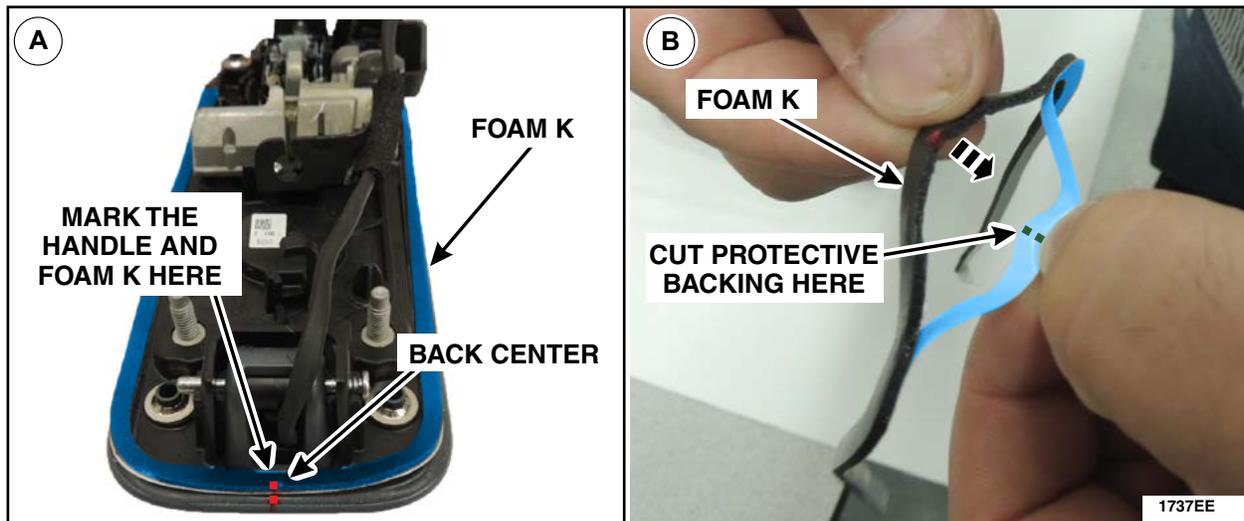

FIGURE 94
- A. Lay out Foam K on the exterior door handle and mark center as shown in Figure 94.
- B. Remove Foam K from the door handle and remove the back center portion of the adhesive backing then cut the protective backing in half. See Figure 94.